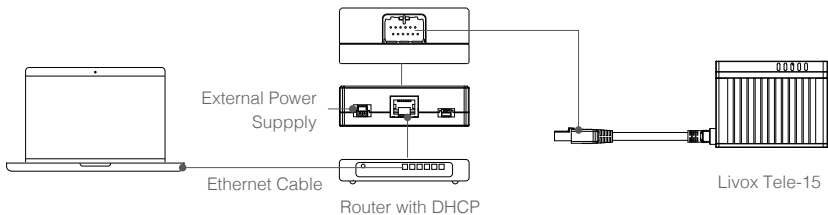

Figure 4.2.2 Connecting using dynamic IP address
5. Connect the Tele-15, Livox Converter 2.0, router, computer, and external power supply by following Figure 4.2.2.